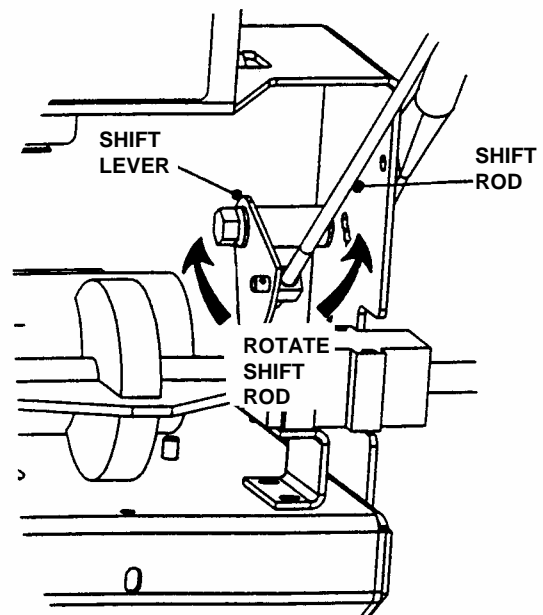

FIGURE 5.6
3. Rotate the shift rod clockwise or counter clockwise to allow the upper portion of shift rod to be inserted into the ground speed control lever without moving the speed control lever or the Transmission Shift lever. Reinstall hair pin. See Figure 5.6.